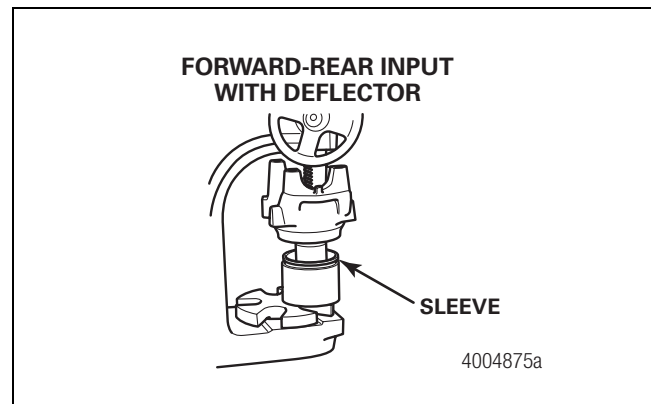

Figure 8
5. Apply a light coat of axle oil to the yoke seal journal. Position the sleeve into the forward-rear axle input yoke sleeve driver. Do not touch the greased areas of the sleeve. The sleeve must be kept clean prior to assembly into the seal. Use an arbor press and the appropriate driver to install the sleeve into the yoke. Verify that the sleeve is fully-seated in the yoke. Figure 8.